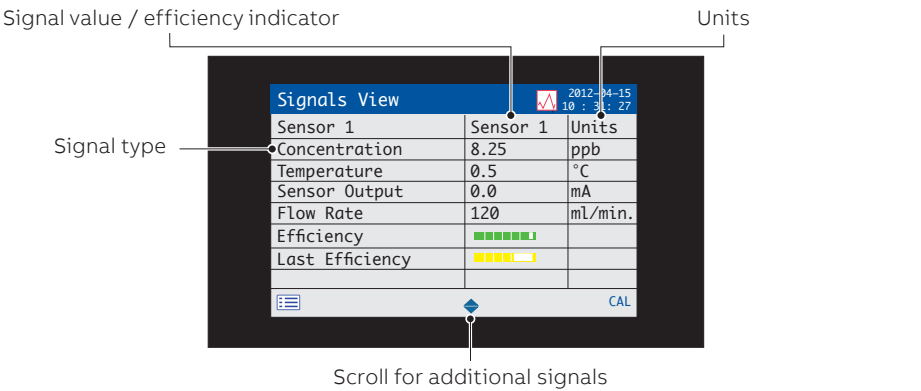

Fig. 6.9 Signals View
- *Signals View* – display a list of active signals and their values – see Fig. 6.9